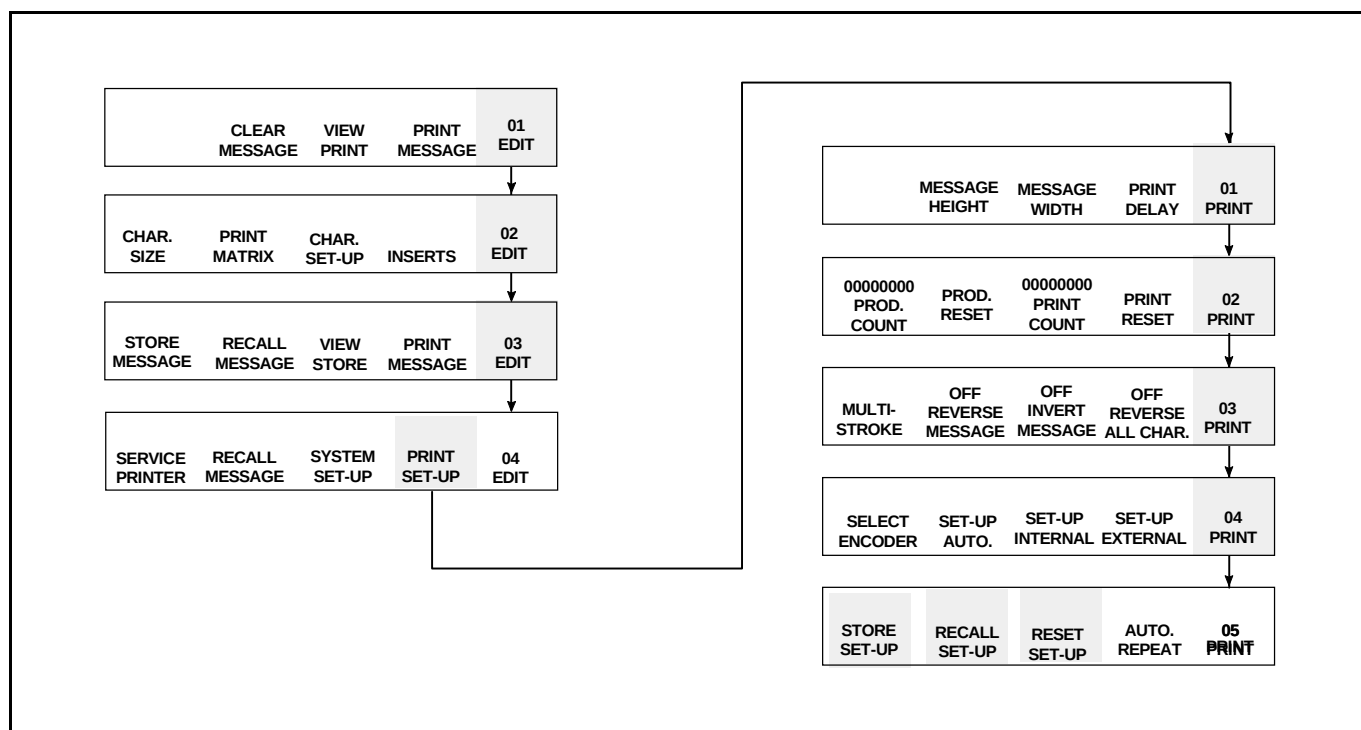

Figure 7-20. Accessing Frame <05 PRINT>
1. Begin in Frame <05 PRINT>. Refer to Figure 7-20.